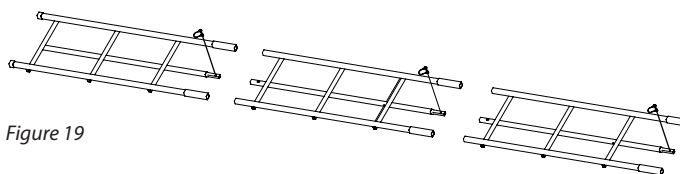

Figure 19
17. With all sections assembled together on ground, secure all sections together using (3) provided spring lock pins. **SEE FIGURE 19.**